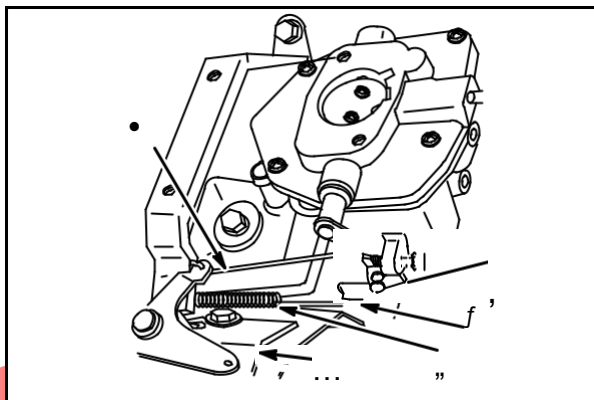

Fig. 11
Remove two screws and choke control bracket (5), **Fig. 11**.